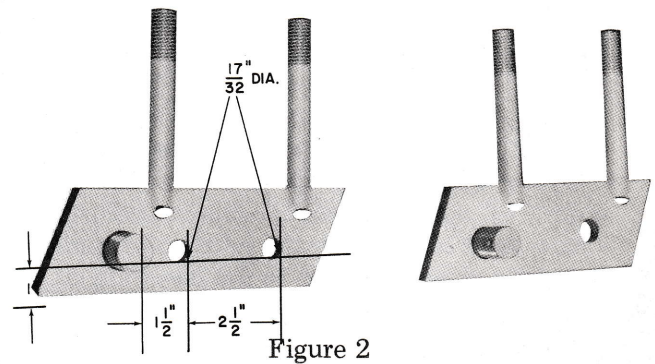

Figure 2
1. Check the Right Retaining Assembly of the rear hitch. On earlier hitches it will be necessary to obtain a new Right Retaining Assembly or drill 2 - 17/32 inch diameter holes as shown in Figure 2.